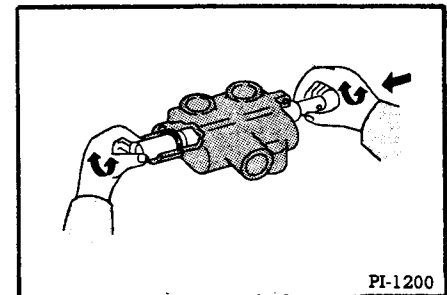

Fig. 125 Pushing Spool Through Seal
7. Insert the special seal tool into the spool housing from the back of the valve and through the new seal until the shoulder of the special tool touches the valve housing (Figure 125). The purpose of the special tool is to guide the spool through the new seal without damaging it.
8. Push the spool into the housing from the front, keeping a firm grip on the special tool in back until you have forced the front of the spool into the housing and the front groove is visible. In pushing the spool through the housing, twisting the spool and special tool will assist the movement (Figure 125).